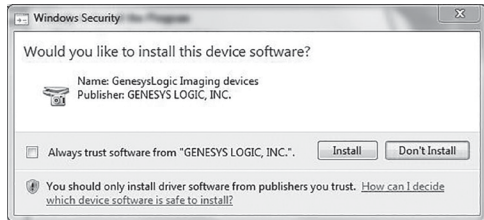

Figure 2. Driver installation – press “install.”
3. Towards the end of the install process, a window will pop up asking if you'd like to install the device software (**Figure 2**). Click "Install" to correctly install the driver.